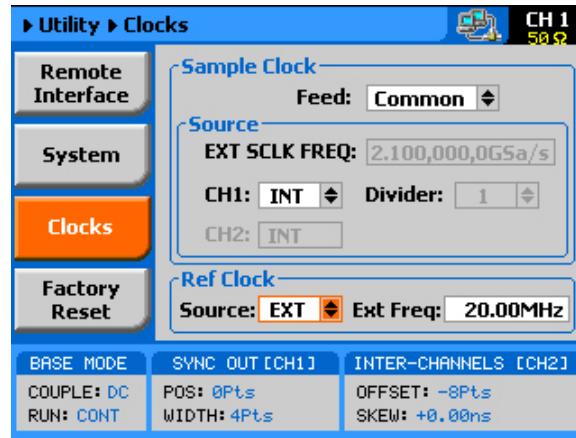

Figure 3-18, Using an External Sample Clock Example
As shown in Figure 3-18, there are two parameters that can be accessed in the Reference Clock group: Source and EXT FREQ. These are explained below.
**EXT FREQ** – this field becomes active only after you select an external reference feed. This field is necessary for the instrument to establish a frequency range for the internal phase lock loops and therefore must be programmed near or exactly as the external reference source frequency. Figure 3-18 shows an example of a